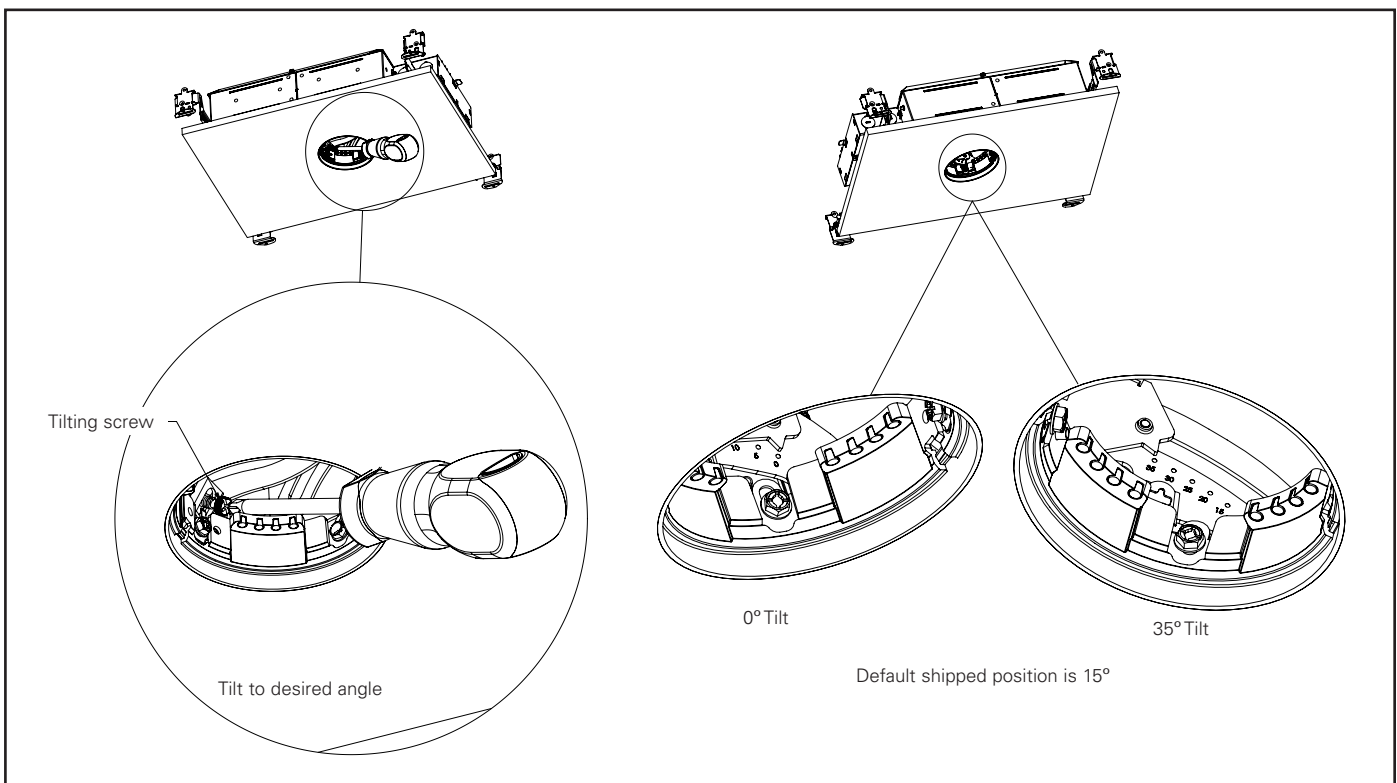

Figure 16.
1. Tilt the mechanism by turning the tilting screw in the clockwise direction (Figure 16). Reference the angle dial on the mechanism assembly for determining tilt angle.
2. Make sure that the mechanism 0-degrees downlight position (see figure 16).
2. Make Sure that the adjustment mechanism is 0 degrees (downlight position) (see figure 16).
5. Tilt the mechanism 35-degrees (see Figure 16).